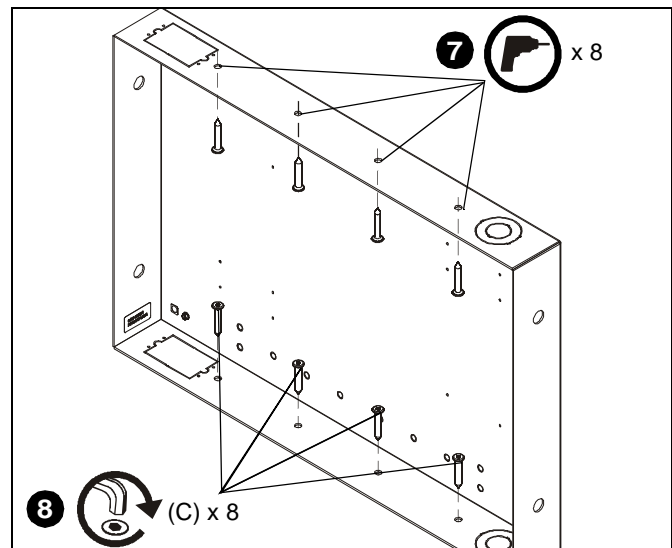

Figure 5
7. Drill eight 3/16" diameter pilot holes in horizontal framing at top and bottom mounting holes. (See Figure 5)
8. Attach the TA501 (A) to horizontal framing using eight M7 x 40mm Allen head connector screws (C) using an M4 Allen head drill bit (F). (See Figure 5)